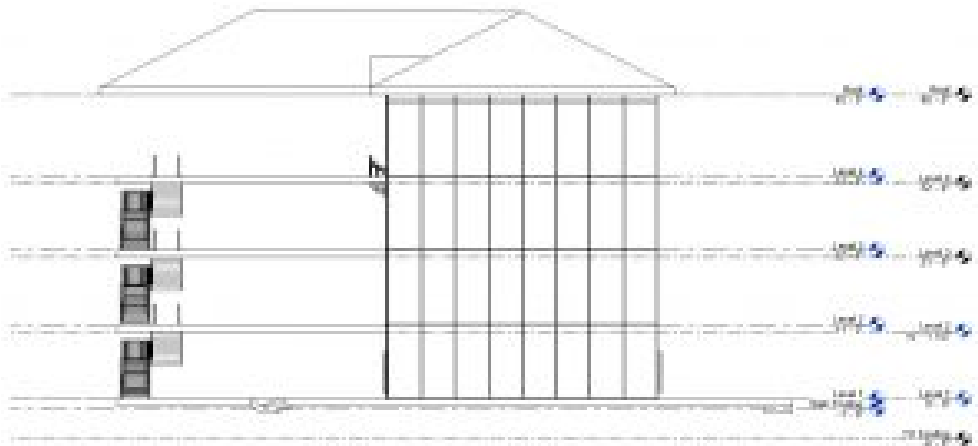

Figure 16.1 Levels added to the Structural file
12. The linked Revit file levels show but are not accessible. The structural template default levels may be hidden behind the linked file. Select a level then click and drag the hollow circle out to the right as shown in Figure 16.1
13. Adjust Level 2 height to align to the bottom of the floor slab also shown in Figure 16.1